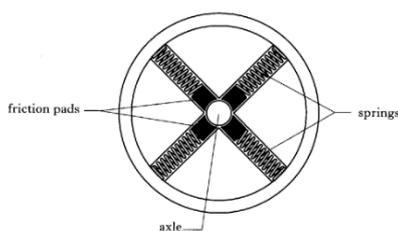

Figure 2
- d) One type of yo-yo has four friction pads inside each disc. Each friction pad is held in place by a spring which exerts a force of 5.00 N . At low angular velocities the friction pads grip the axle as shown in Figure 2.